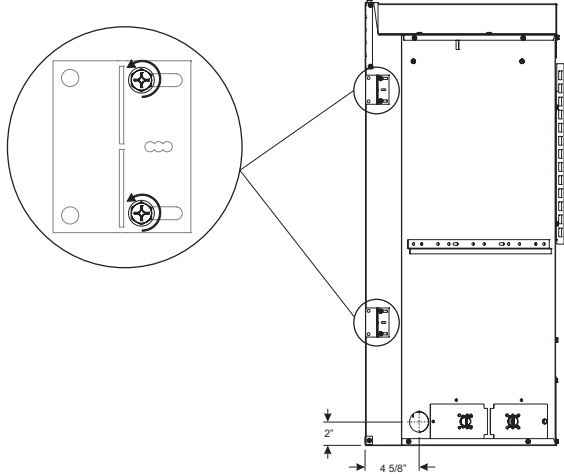

Figure 25
4. Loosen but do not remove the eight screws securing the nailing flanges to the firebox. **See Figure 25.**